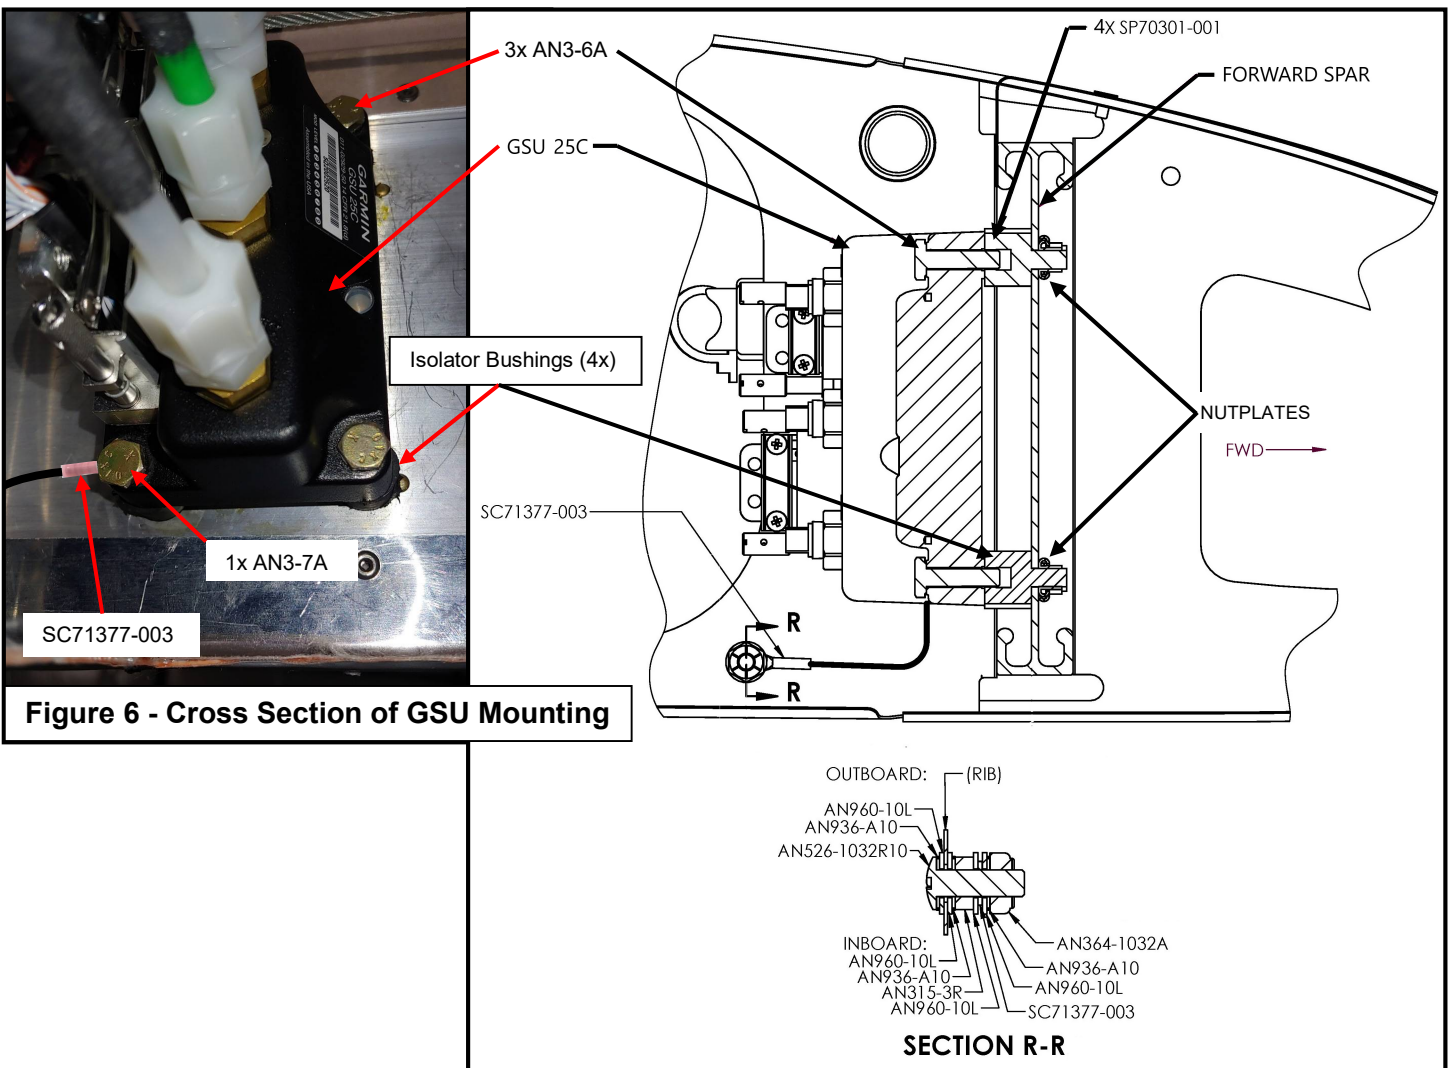

Figure 6 - Cross Section of GSU Mounting
4. Reinstall the GSU 25C using four AN3 bolts (three AN3-6A bolts and one AN3-7A in the bottom, outboard corner) and the four SP70301-001 Isolator Bushings. Refer to Figure 5 and Figure 6 for details.
- c. Apply blue Loctite on the bolts before inserting them through the GSU 25C and into the isolator bushings (see Figure 6).
5. Attach the free end of the bonding strap, SC71377-003, to the adjacent spar using the hardware stack-up detailed in Section R-R of Figure 6. See also Figure 4.